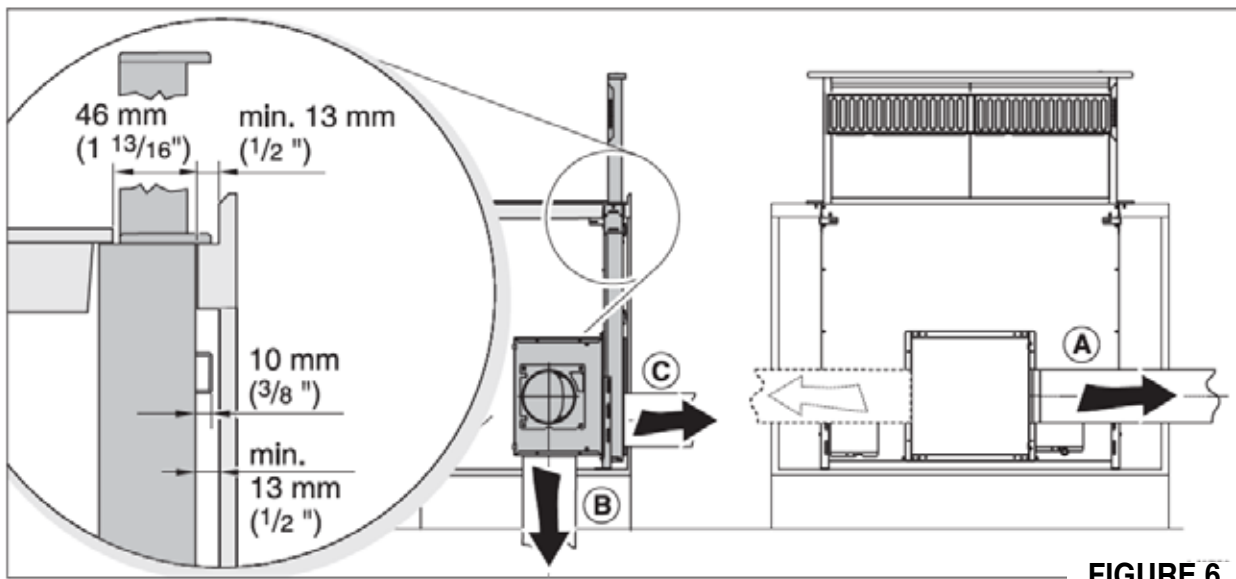

FIGURE 6
See the previous page with FIGURE 5, and FIGURE 6 above for reference. When using the IBDD600-B internal blower installed on the front of the appliance use 6" Round ducting. Holes for ducting are shown on FIGURE 5, 6:(A) to the left or right (B) downwards, (C) to the rear. If the blower is being installed to the rear of the appliance, a cut-out must be made in the rear of the cabinet or wall where it will be mounted and the appropriate clearances must be maintained behind the cabinet.